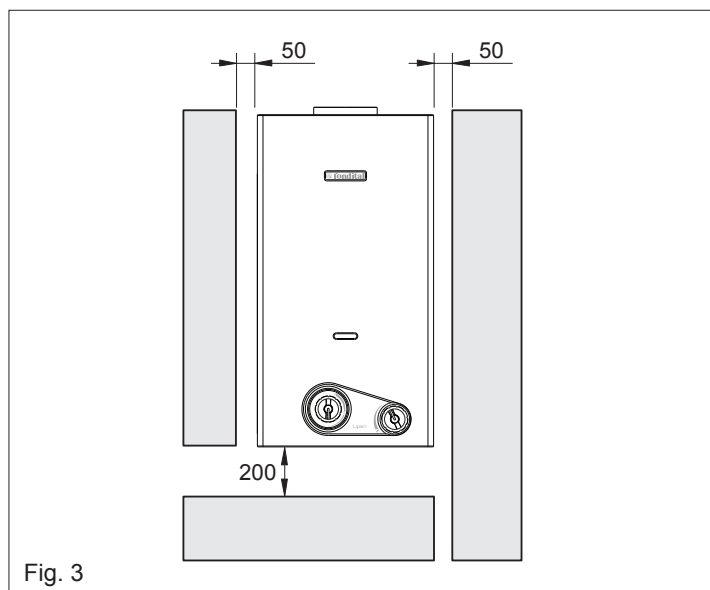

Fig. 3
- It is vital to leave the minimal distances around the device as shown in Fig.3 to allow for maintenance operations to take place.